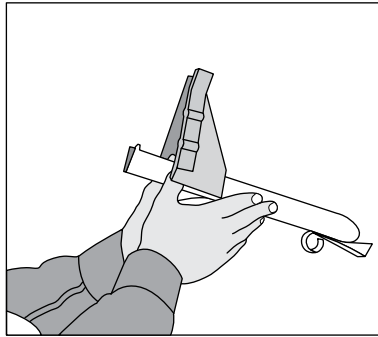

Figure 18
2. Remove the magazine assembly. (See Figure 18)